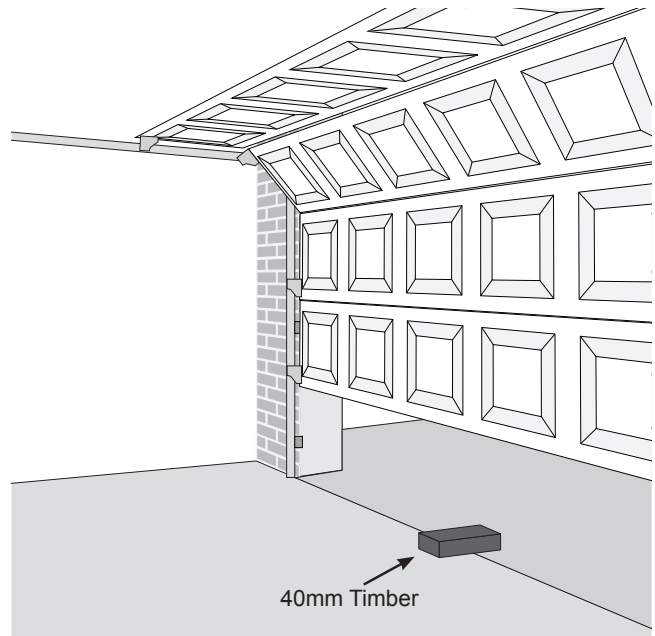

Fig. 22
- 1 Test the obstruction force margin sensitivity by placing a piece of timber approximately 40mm thick on the floor in the doorway (Fig. 22).